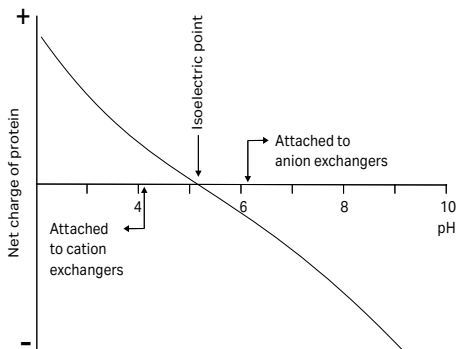

Fig 3. The net charge of a protein as a function of pH.
Ion exchange chromatography is based on adsorption and reversible binding of charged sample molecules to oppositely charged groups attached to an insoluble matrix. The pH value at which a biomolecule carries no net charge is called the isoelectric point (pI). When exposed to a pH below its pI, the biomolecule will carry a positive charge and will bind to a cation exchanger (SP). At pH's above its pI the protein will carry a negative charge and will bind to an anion exchanger (Q). If the sample components are most stable below their pI's, a cation exchanger must be used. If they are most stable above their pI's, an anion exchanger is used. If stability is high over a wide pH range on both sides of pI, either type of ion exchanger can be used, see Figure 3.